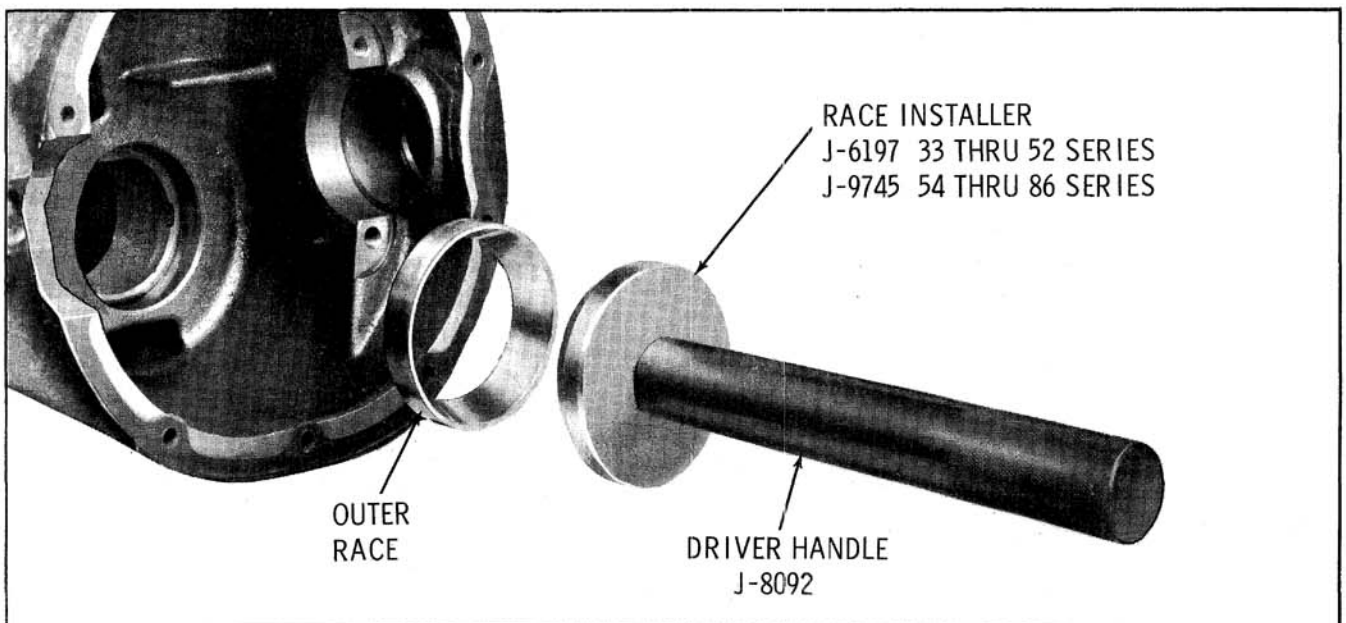

Fig. 10-22 Installing Pinion Rear Bearing Outer Race
1. If a new rear pinion bearing is to be installed, install new outer race as shown in Fig. 10-22.